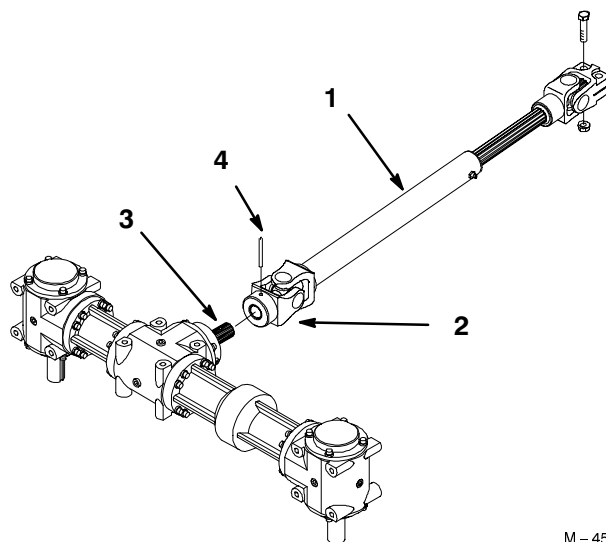

Figure 34
9. Rotate PTO drive shaft so holes align with hole in gearbox shaft and slide together (Fig. 34).
10. Drive roll pin through hole to secure PTO drive shaft to gearbox shaft (Fig. 34).